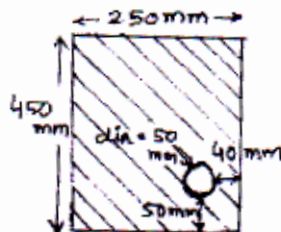

figure 4
- Q5) Find centroidal x and y co-ordinate with respect to point A. Also find moment of inertia about centroidal xx and yy axis for the lamina shown in figure.4 [15]